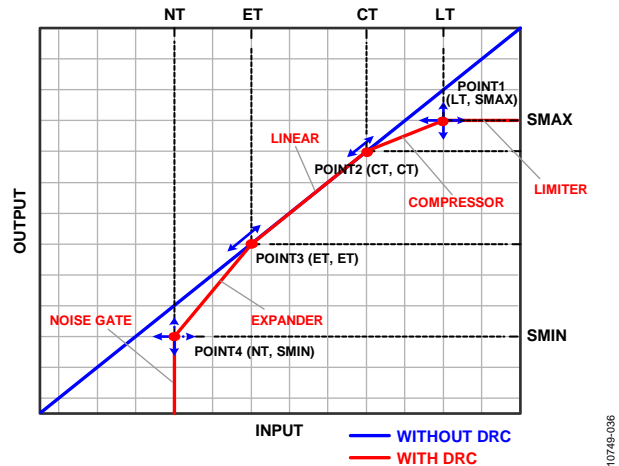

Figure 37. DRC Input/Output Relationship
The overall DRC characteristics are illustrated in Figure 37. A number of threshold levels (referred to the input) are used, which are defined as the limiter threshold (LT), compressor threshold (CT), expander threshold (ET), noise gate threshold (NT), maximum output signal amplitude (SMAX), and minimum output signal amplitude (SMIN). The corresponding bits are DRC\_LT, DRC\_CT, DRC\_ET, DRC\_NT, DRC\_SMAX, and DRC\_SMIN and can be found in Register 0x59 to Register 0x5D.